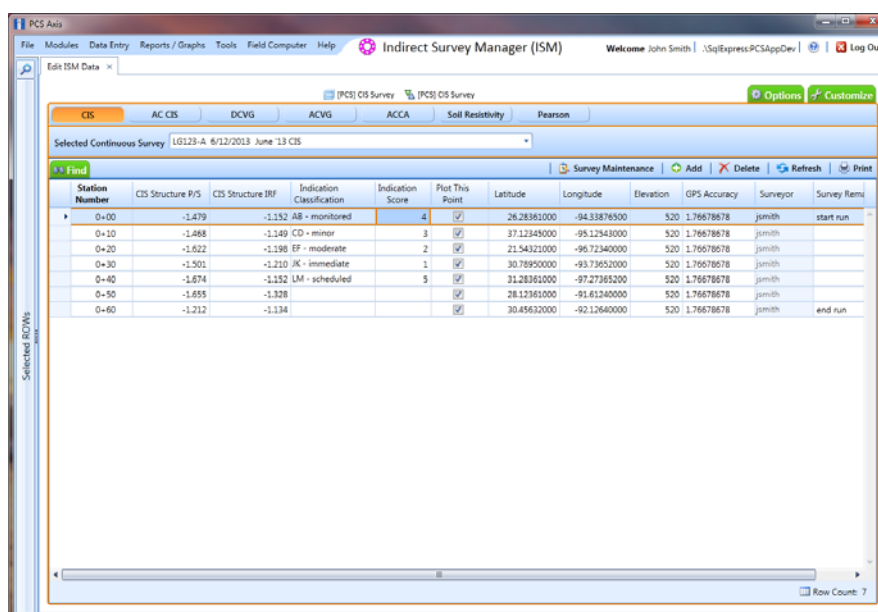

Figure 6-55. Edit ISM Data
- 3 Click **Data Entry > Edit ISM Data** to open the ISM data entry grid. Then click a button labeled with the type of continuous survey data you want to work with, such as the **CIS** button  (Figure 6-55).